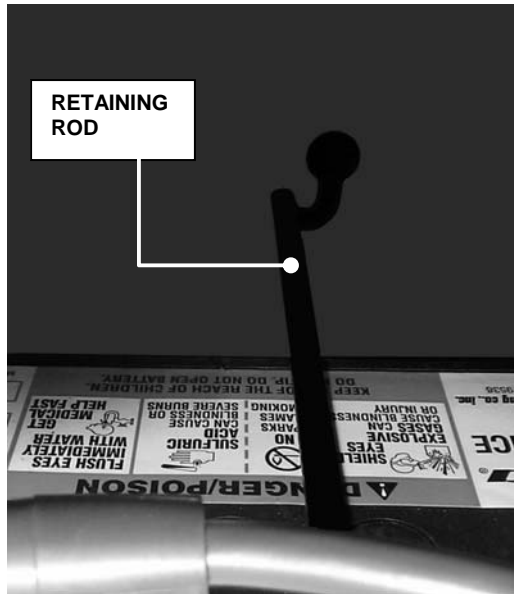

FIGURE 1.5
9. Install battery into power unit. Place battery into battery tray and secure in place with retaining rod. See Figure 1.5.